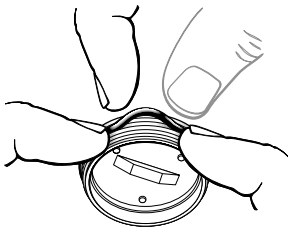

Figure 16
4. Using your fingers, press upward on the sides of the O-ring to create a protrusion and remove the O-ring from the battery hatch and discard (figure 16). Do not use tools to remove the O-ring.